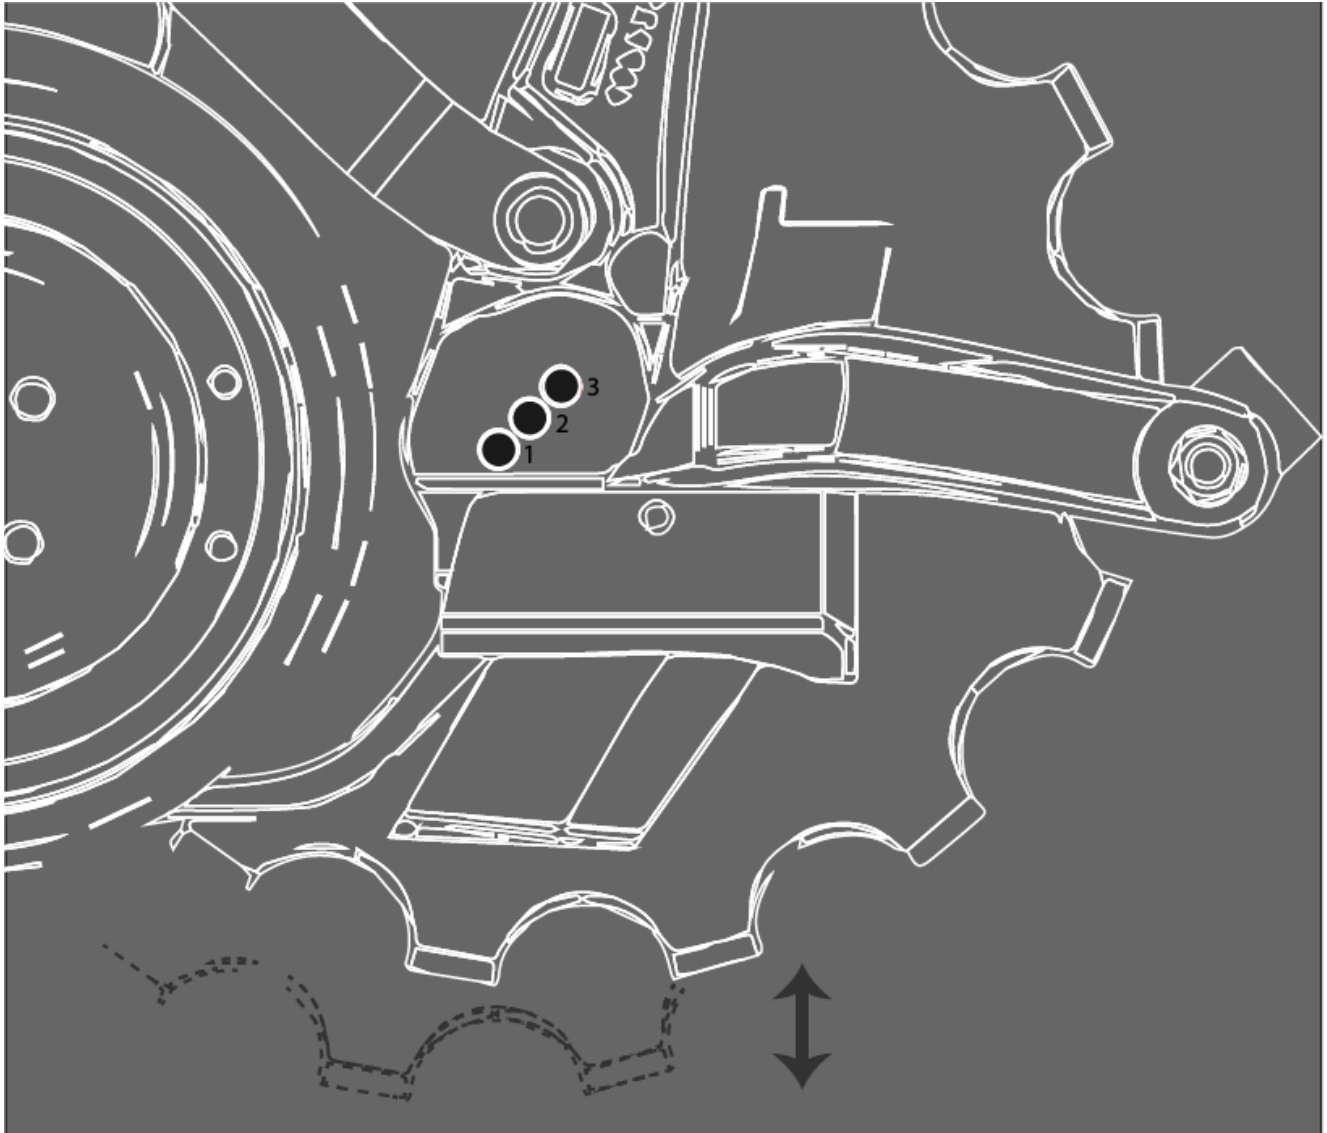

Fig. 29 : Disc mounting holes
1. Untighten the 2 Spring Plate screws (Fig.29) to relieve the pressure applied by the blades and the scrapers.